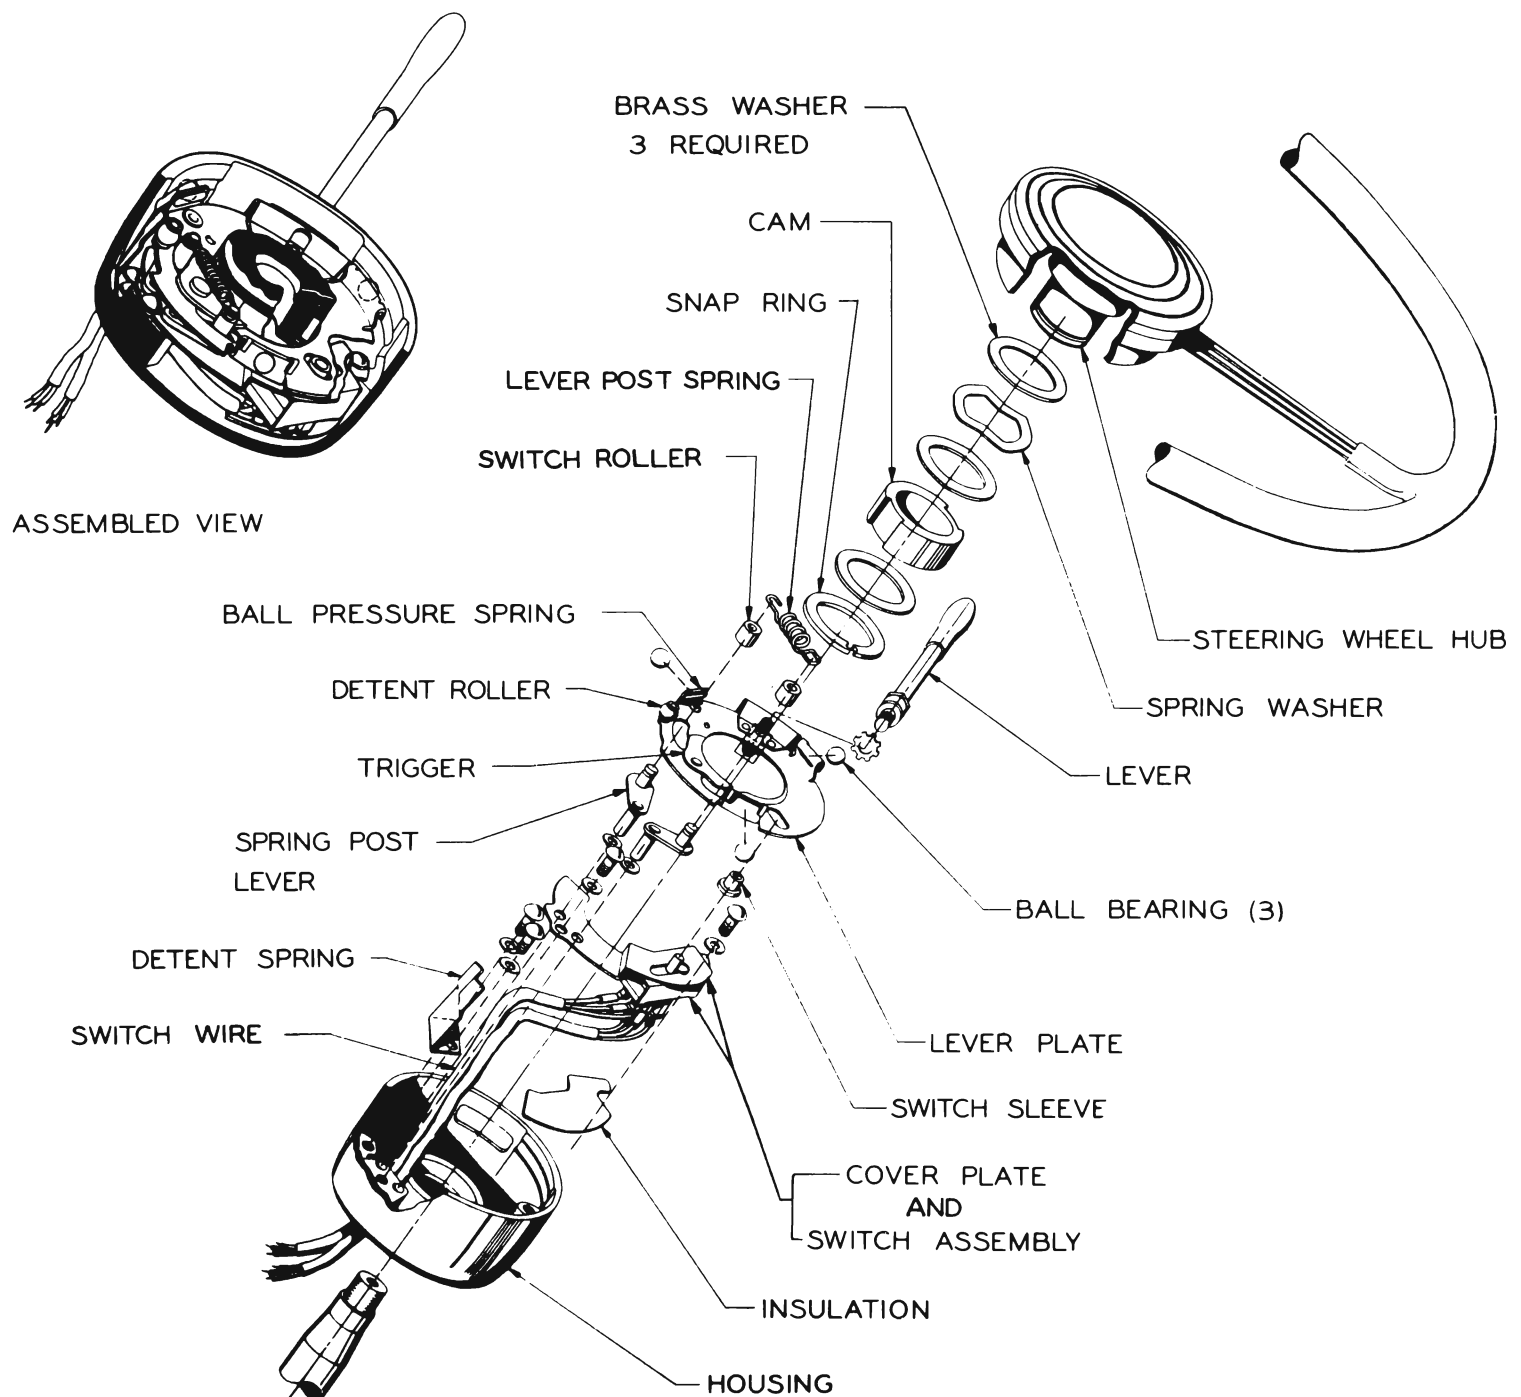

Figure 10-123—Direction Signal Switch—Disassembled
plate moves the switch handle to obtain the "left", "off", or "right" position of switch contacts. The lever plate is held in the selected position by a detent roller on the plate which engages a detent spring mounted in switch housing. See figure 10-123.
When the lever plate is manually rotated for a right (or left) turn by the control lever, the corresponding end of a trigger on lever plate is pressed against a cam on the steering wheel hub by the action of a spring loaded post lever. When the steering wheel is turned approximately one third revolution for a right (or left) turn, the end of the trigger drops into a notch in the cam so that the trigger, lever plate, and switch handle are pushed back to the "off" position as the wheel is turned in the opposite direction after the turn is completed. As the switch reaches the "off" position, the trigger is withdrawn from engagement with the cam by the action of another spring loaded post lever. See figure 10-123. The switch remains in the "off" position until it is again set for a turn.
5. The clutch friction for maintaining the signal switch cam in the correct position on steering wheel hub is controlled by a crimped steel spring washer. See figure 10-123. If trouble is experienced in maintaining proper timing and adjustment of the cam, the spring washer is probably flattened and too weak, permitting the cam to turn on hub. To check the clutch friction, note the pressure required to hold the control lever while slipping the cam in step 3 above. Compare with another car on which no trouble is experienced. See paragraph 10-64 for replacement of cam or clutch friction parts.
spring washer, brass washer, cam, brass washer, and snap ring. See figure 10-123. CAUTION: Use care when installing parts to avoid distorting and weakening the spring washer.
10. Make sure that the switch housing insulation is in place below the switch (fig. 10-123) then work the switch and wire down into place in switch housing.